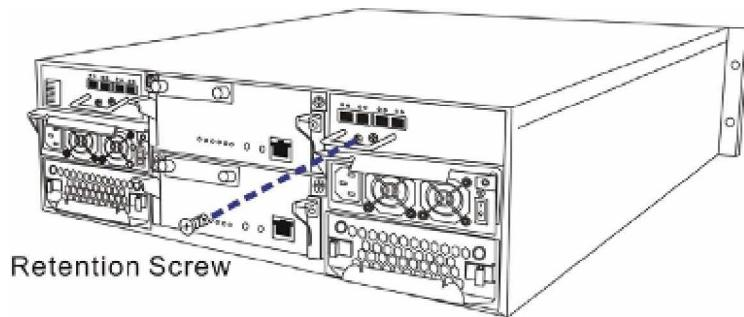

Figure 5-14: Loosening the Host Connection Module Hand Screw
Step 2. Remove the host connection module from the chassis. Loosen the two (2) hand screws by turning them counterclockwise. The retention screws are located on the host connection module rear panel. (See **Figure 5-14**)